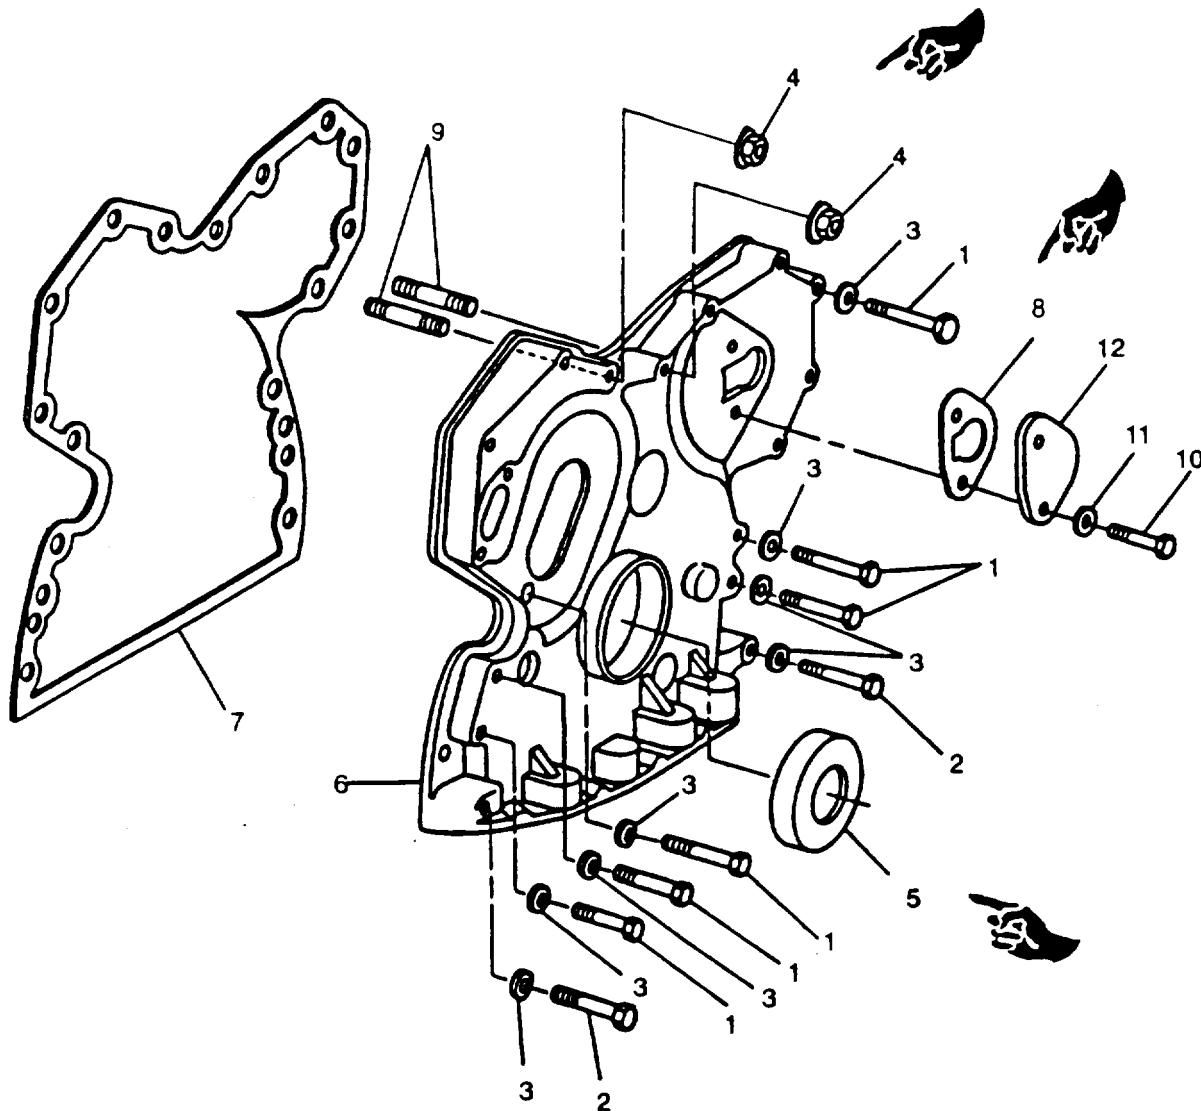

FIGURE 3-127. Timing Gear Cover
- j. Remove ten capscrews (1, FIGURE 3-127), two capscrews (2), twelve washers (3), and two nuts (4) securing timing gear cover (6); remove cover (6) and gasket (7) from engine block. Discard gasket (7).
- k. Using suitable driver, remove seal (5) from front cover.
- l. Remove two studs (9) from engine block.
- m. Remove two capscrews (10) and washers (11) securing access cover (12); remove cover and gasket (8). Discard gasket.
- a. Install access cover (12, FIGURE 3-127) and new gasket (8) on timing gear cover (6) and secure with two capscrews (10) and washers (11).
- b. Install two studs (9) in engine block.